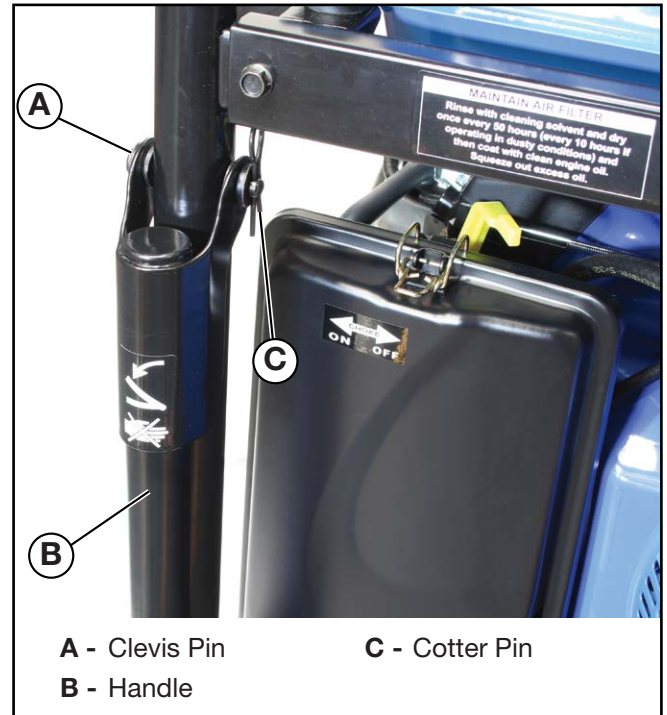

Figure 7 – Attaching Handle to Frame
5. Install each handle using a clevis pin and cotter pin as shown in *Figure 7*.